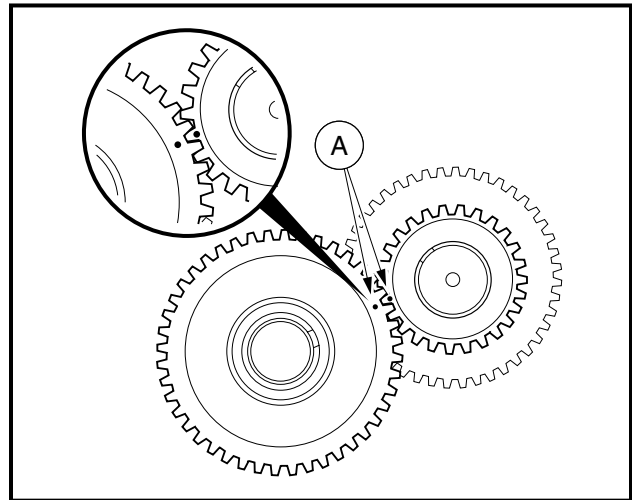

Figure 3-39 Timing Mark Alignment
1. Keep the timing marks (A) aligned during removal (**Figure 3-39, Page 3-21**).
3. Align the timing marks (3) (Figure 3-39, Page 3-21). See following NOTE.